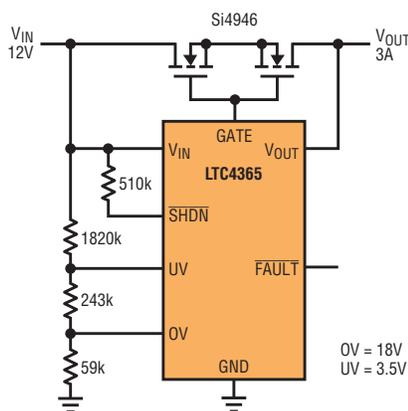
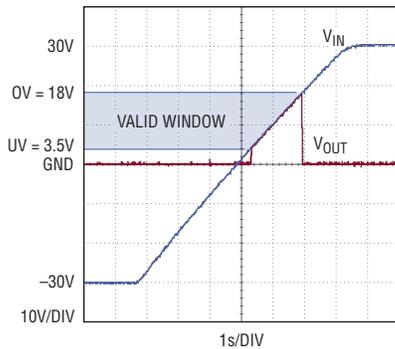

Figure 1. Complete 12V automotive undervoltage, overvoltage and reverse-supply protection circuit
Figure 2. Load protection as V_{IN} is swept from -30V to 30V
Figure 1 shows a complete application. A resistive divider sets the overvoltage (OV) and undervoltage (UV) trip points for connecting/disconnecting the load from V_{IN} . If the input supply wanders outside this voltage window, the LTC4365 quickly disconnects the load from the supply.
Figure 2 shows the how the circuit of Figure 1 reacts as V_{IN} slowly ramps from -30V to 30V. The UV and OV thresholds are set to 3.5V and 18V, respectively. V_{OUT} tracks V_{IN} when the supply is inside the 3.5V–18V window. Outside of this window, the LTC4365 turns off the N-channel MOSFET, disconnecting V_{OUT} from V_{IN} , even when V_{IN} is negative.